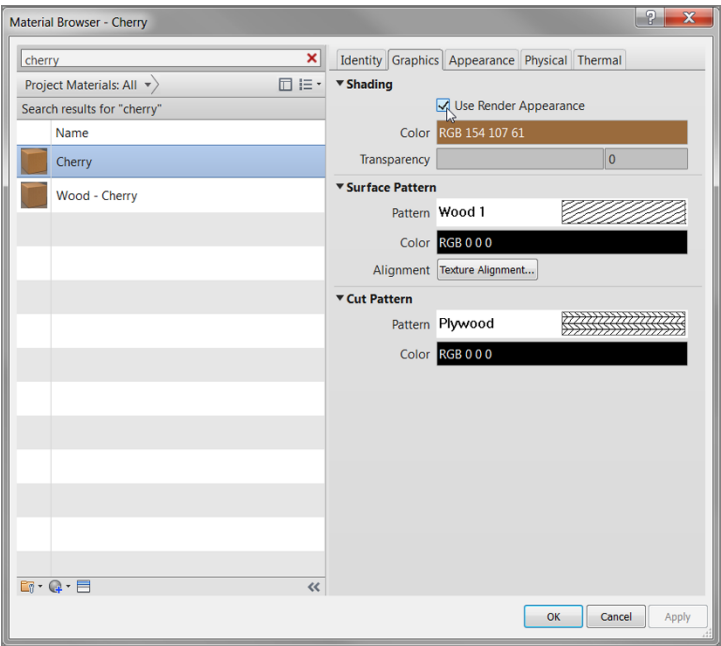

FIGURE 9.20: Selecting and configuring the material for the ceiling
- 12. In the top of the Material Browser dialog, type Cherry, as shown in Figure 9.20.
15. Below the Surface Pattern category, expand the Cut Pattern category. Change the Pattern field to Plywood. Click OK. (See Figure 9.20.)
16. In the Shading category, click the Use Render Appearance box (see Figure 9.20).